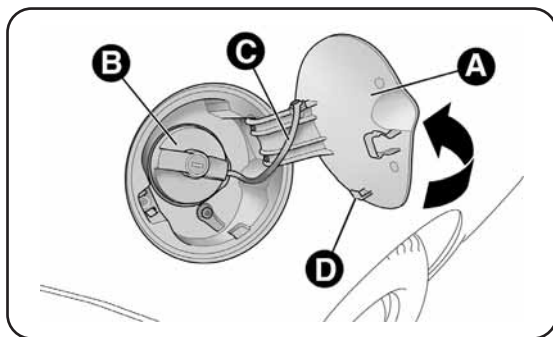

fig. 74
- 1) Open the flap A-fig. 74 pulling it outwards, keep the cap B still, insert the ignition key in the lock and turn it anti-clockwise.